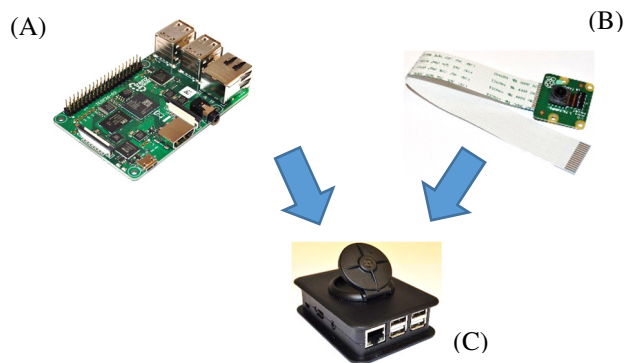

Figure 9. Experimental equipment
An experimental board “ZynqBerry” developed as an open source crowdfunded project [1] and sold by Trenz Electronic GmbH [2] is used for all experiments in this compendium. See device (A) in Figure 9. This board has the same form factor and the same I/O as the more known Raspberry Pi computer. ZynqBerry is designed with a System on Chip device from Xilinx being a heterogeneous combination of Field Programmable Gate Array, two Arm processors and I/O-interfaces. This architecture allows users to define both custom designed hardware and software.